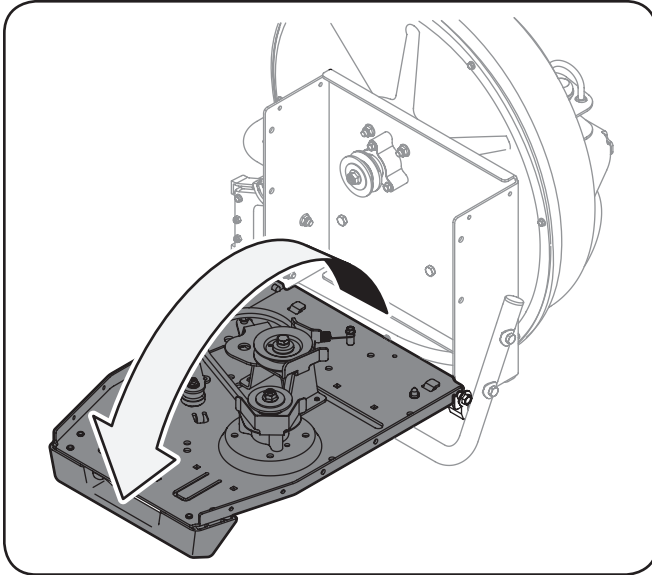

Figure 5-4
5. Pivot the mounting frame bracket down, as shown in Figure 5-4.